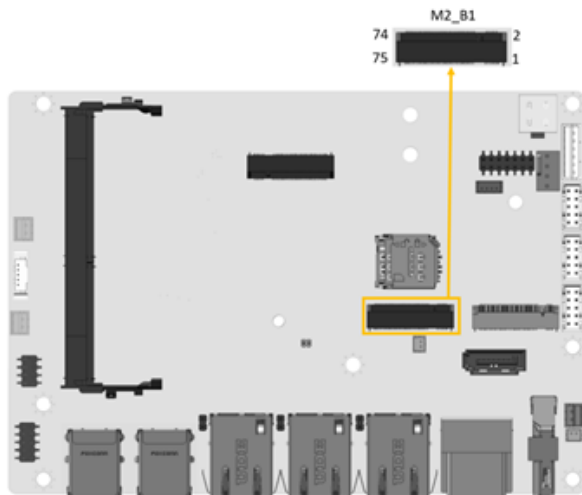

Figure 3-29: M.2 B key Slot Location
- CN Location:** See **Figure 3-29**